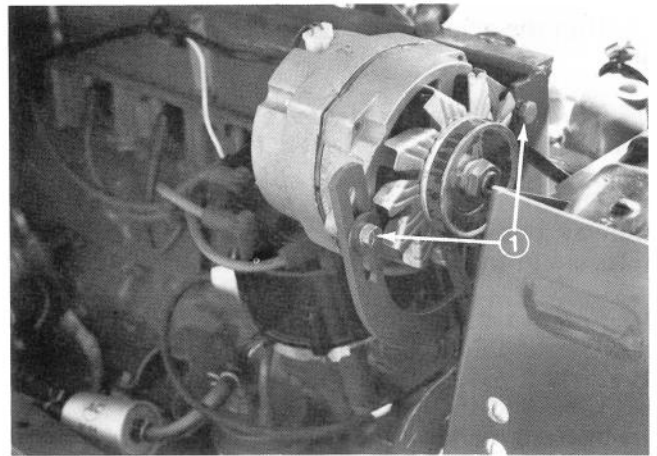

Figure 18
3. If belt deflection is inaccurate, loosen the alternator mounting bolts and rotate the alternator to attain the proper tension. (Fig. 18).